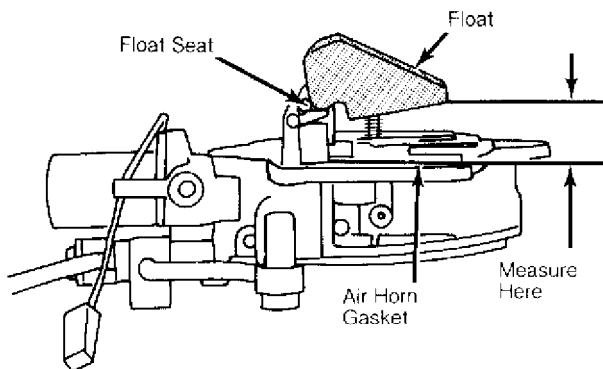

Fig. 1: Float Level Adjustment
2) Measure clearance between float and air horn gasket. See Fig. 1. Clearance should be .61-.65" (15.5-16.5 mm). If not within specifications, bend float seat to adjust.